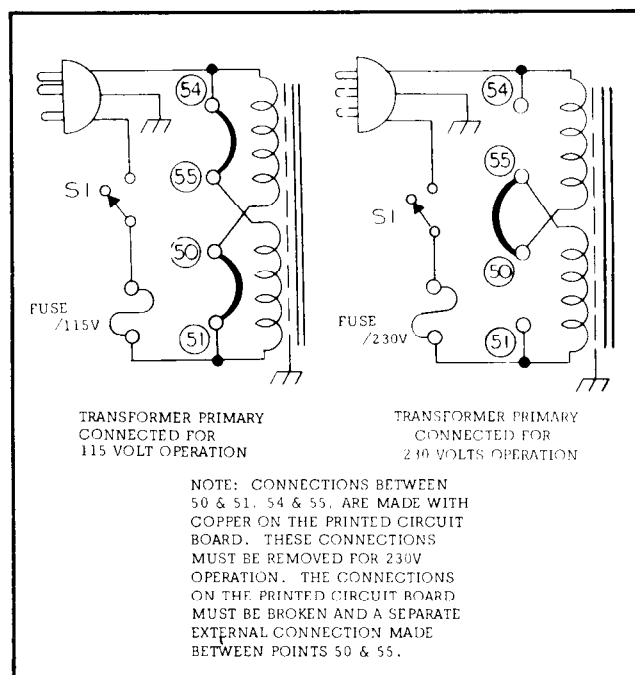

Figure 2-3. Primary Connections
2-17 CONNECTIONS FOR 230 VOLT OPERATION (See Figure 2-3)
b. Broak the copper between 54 and 55 and also between 50 and 51 on the printed circuit board. These are shown in Figure 2-3, and are labeled on copper side of printed circuit board.